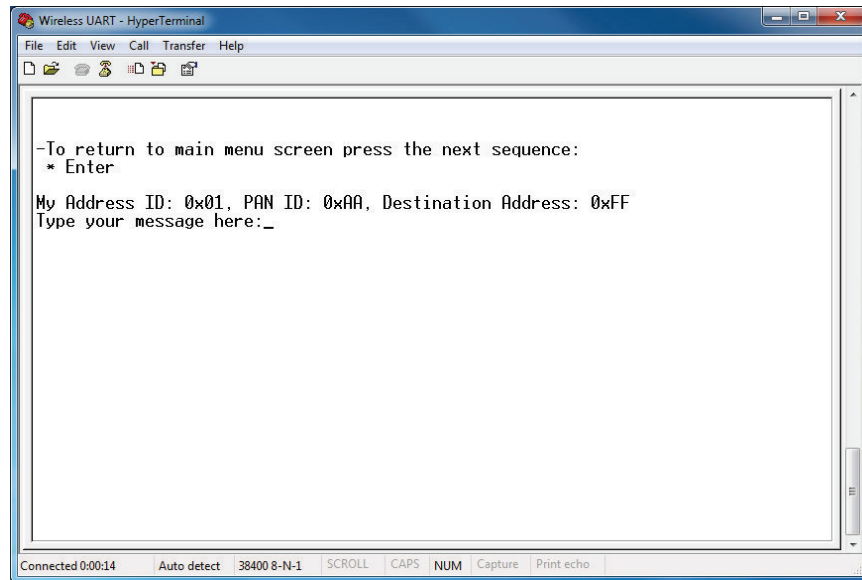

Figure 3-5. Wireless UART Typing Message Screen
4. If valid values were entered and both boards have correct values (Same PAN ID and a valid Destination Address ID), you are ready to start sending or receiving messages over the air. Press “4” in the main menu. The screen should be cleared and the “Typing message” screen should appear as shown in Figure 3-5.
You can disable the configuration mode so that the application defaults directly to the typing message window (Figure 3-5) with the default values for My Address ID, PAN ID and Destination Address ID already loaded. This option is included for users who do not need to change the ID values.